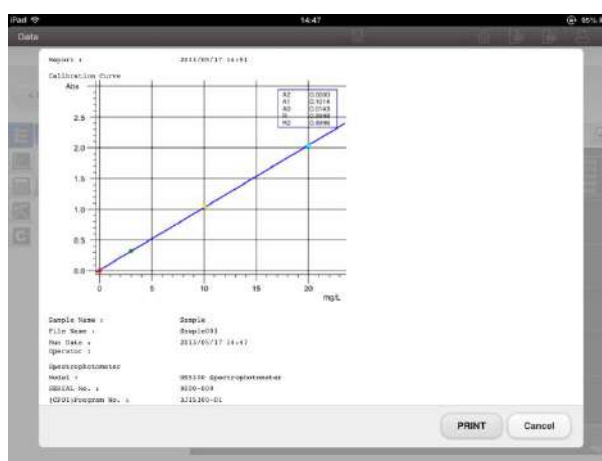

Fig. 4-104 Print Preview Window
(3) Print preview (Fig. 4-104) will be shown.